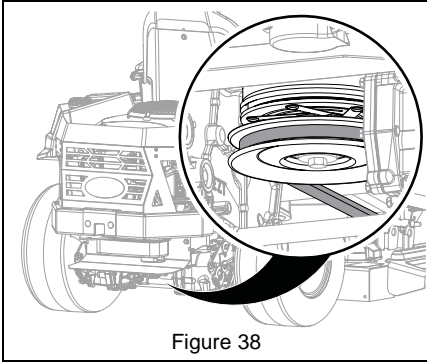

Figure 38
- Remove deck drive belt from rear drive pulley. See Figure 38.